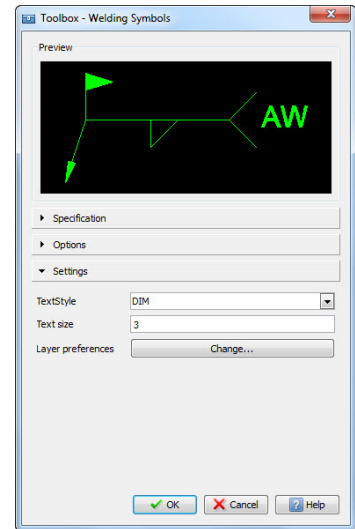

Figure 5-17c
- c. **Settings** allow you to change the TextStyle, Text Size, and Layer Preferences. (Figure: 5-17c)